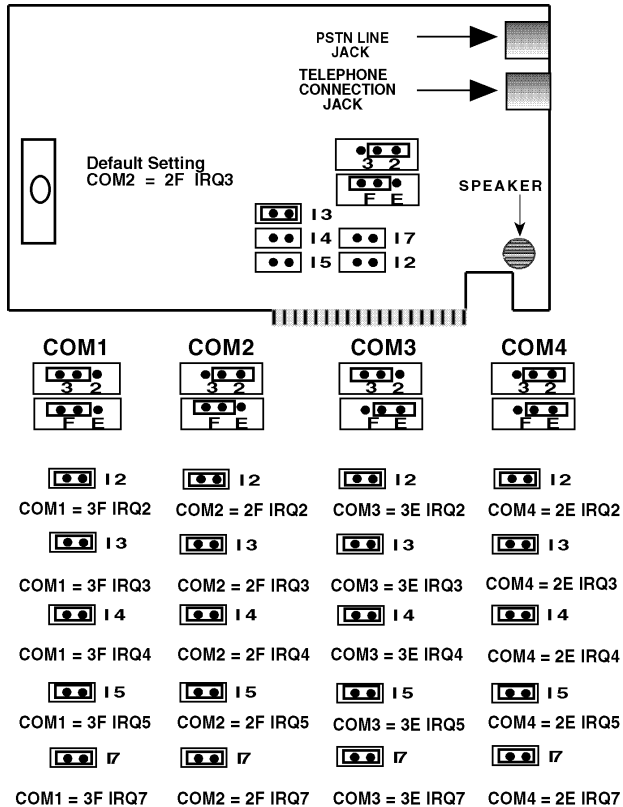

Figure 2-1. MT2834ZPX Printed Circuit Board and Alternate COM Port/IRQ Settings
- Figure 2-1 illustrates the default COM port and IRQ value setting for this card (COM2/IRQ3). If your application requires an alternate setting, remove the berg jumpers from the COM2/IRQ3 position and place them in a position that supports your application. The MT2834ZPX can be configured for either a COM1, COM2, COM3 or COM4 communication port; with a selection of five IRQ values for each port. By this means, the user may select an identical COM port because of the expanded IRQ value selection option (e.g., the MT2834ZPX has a factory default of COM2/IRQ3...a Mouse device can also be configured at COM2 but at IRQ4...a Printer device configured at COM2 but at IRQ7...).